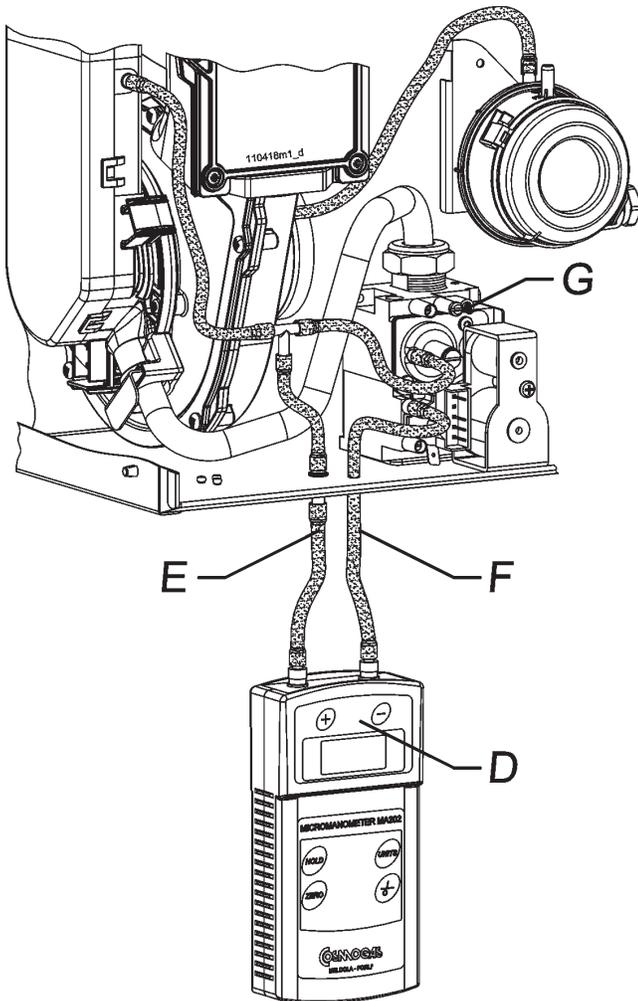

Figure 12-5 Differential pressure gauge connections to checking the combustion air pressure
7. insert tube "F", from the negative side of the manometer, through the opening of plug "B", and connect it to pressure probe "C" as shown in Figure 12-5;
9. the manometer connections must be made as shown in Figure 12-5, to get the correct pressure reading;